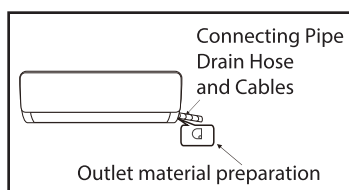

Fig 1
- Depending on the position of the unit, the piping may be routed sideways from the left or the right (Fig 1), or vertically from the back (Fig 2)(depending on the pipe length of the indoor unit). In the case of sideways routing, cut off the outlet cutting stock of the opposite side.